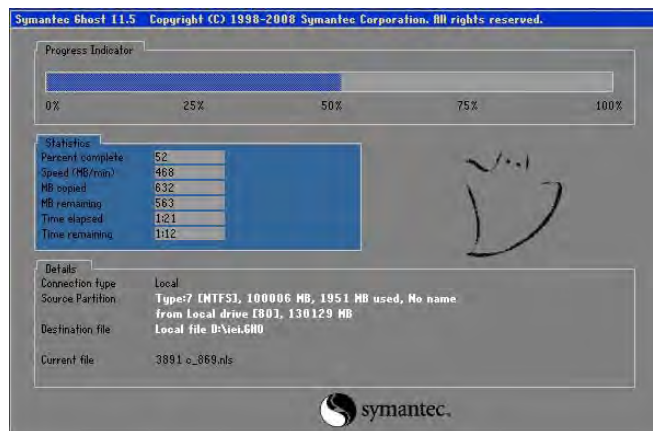

Figure B-19: Image Creation Process
Step 10: The Symantec Ghost starts to create the factory default image (**Figure B-19**).